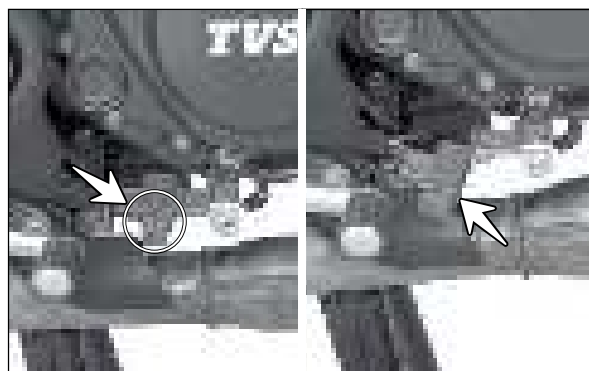

Fig. 3.35
- Pull the red color clip from the coupler and disconnect the O₂ sensor coupler from the wiring harness. (Fig. 3.35)